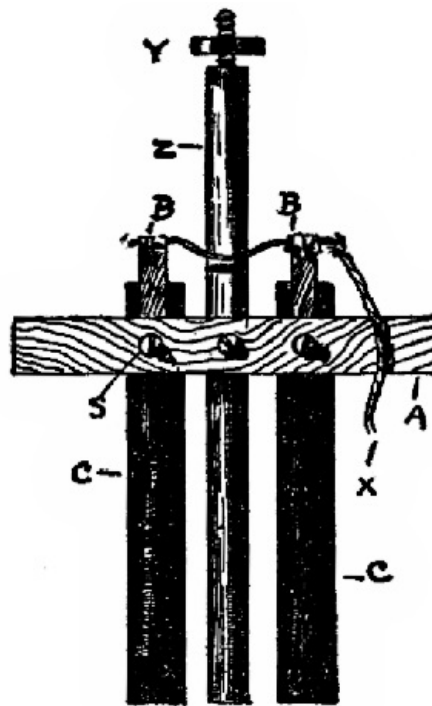
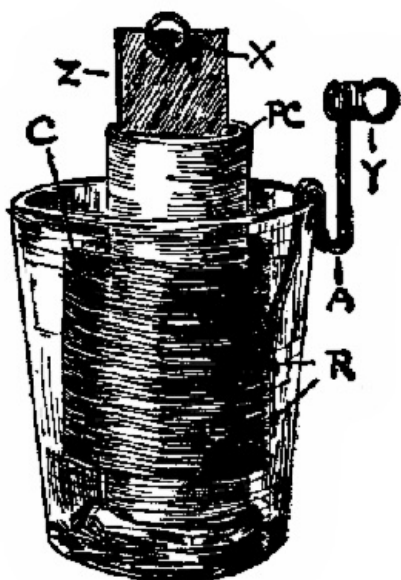

Fig. 4.
Fig. 7.
**5. Carbon-Zinc Cell.** Fig. 4. The general construction of this cell is the same as that of App. 3. There are 2 carbons, *C*, each  $4 \times \frac{1}{2}$  in. The holes for these are bored in *A*  $1\frac{1}{4}$  in. apart, center to center. The zinc rod, *Z*, is a regular battery zinc,  $6 \times \frac{3}{8}$  in., and has a binding-post, *Y*, of its own. The rods, *C*, are held in *A*, and connections are made as explained in App. 3.
**8. Experimental Two-fluid Cell.** Fig. 7. This cell has a zinc strip, *Z*, and copper cylinder, *C*, for the "elements." The porous cup, *P C*, is fully described in App. 11. *Z* is  $5 \times 1$  in., and should be well amalgamated (App. 20). (Study reasons for amalgamation.) A zinc rod, like that shown in Fig. 4, may be used instead of the strip. The copper cylinder, *C*, nearly surrounds *P C*, and is made from a piece of thin sheet-copper,  $6 \times 2$  in. The narrow strip, or leader, *A*, is  $5 \times \frac{1}{2}$  in. To fasten it to *C*, punch two small holes in *C* and *A*, put short lengths of stout copper wire through the holes, and hammer them down so that they will act as rivets, *R*. *C* can be hung centrally in the tumbler by bending *A* as shown. *Y* and *X* are spring binding-posts (App. 42). The battery wires can be fastened directly to *Z* and *A*, as suggested in Fig. 4.
**9. Setting up the Cell.** Arrange as in Fig. 7, but remove *Z* from *P C*. Pour some of the acid solution of App. 14 into *P C* until it stands about  $2\frac{1}{2}$  in. deep, and at once pour the copper solution of App. 16 in the tumbler, on the outside of *P C*, until it stands at the same height as the liquid in *P C*. As soon as the liquids have soaked into *P C*, you can put *Z* in place, when the cell will be ready for use. Remove and wash *Z*, when you have finished, and if you wish to use this cell occasionally, remove the liquids and wash *P C* thoroughly in water. When dry it will be as good as new. The acid rapidly acts upon *Z*, so it is better to remove *Z* if you wish to leave the experimenting even for a few minutes only.